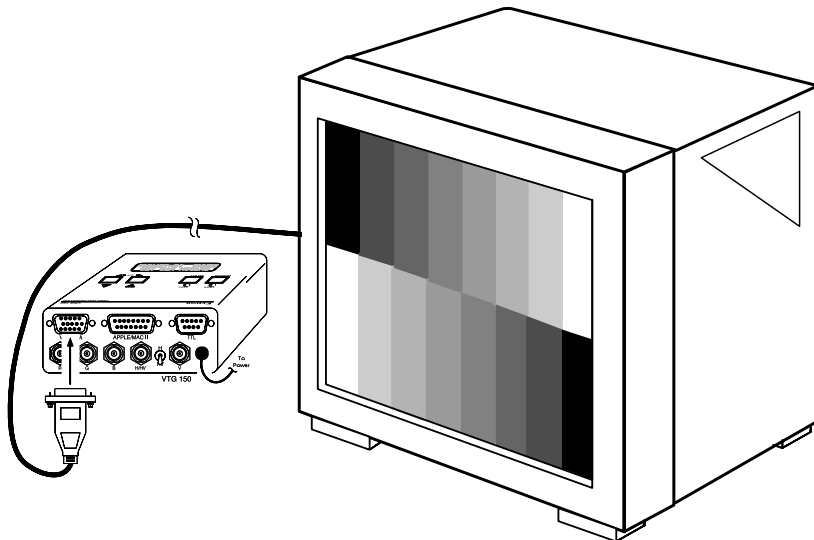

Figure 4-7A VTG 150 VGA/XGA Grayscale Test Pattern.
- Grayscale can be checked and adjusted on monochrome monitors using the 8-level split grayscale pattern. Contrast linearity, from low to high level, can also be checked and adjusted. Each gray and color level represents a 14.3% change in luminance level. (See figure 4-7A.)